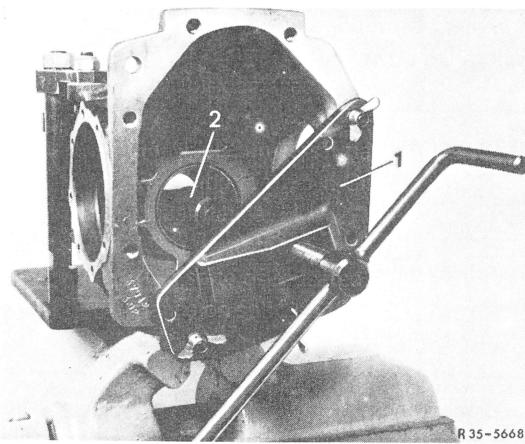

Fig. 5
**6** Screw installation and removal tool to rear axle housing and pull inner tapered roller bearing outer race from housing by means of pulling member (Fig. 5).